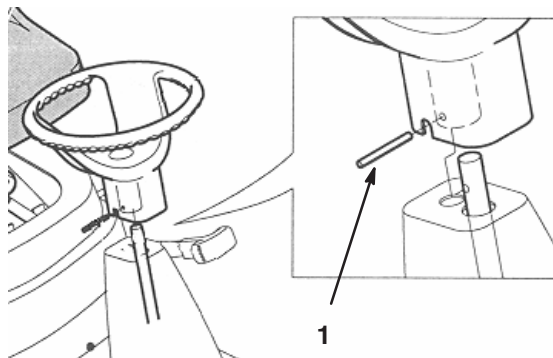

Figure 3
2. Secure the steering wheel with the socket pin (Fig. 3).